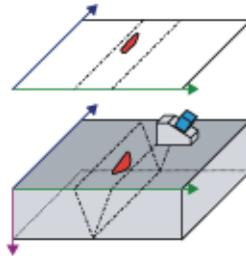

Figure 4-16 Top (C-scan) view
The Top (C) view is defined by the index axis (represented by the vertical axis in RayTracing view), and the scan axis (represented by the horizontal axis). The Top (C) view provides a C-scan view (see Figure 4-16 on page 46).